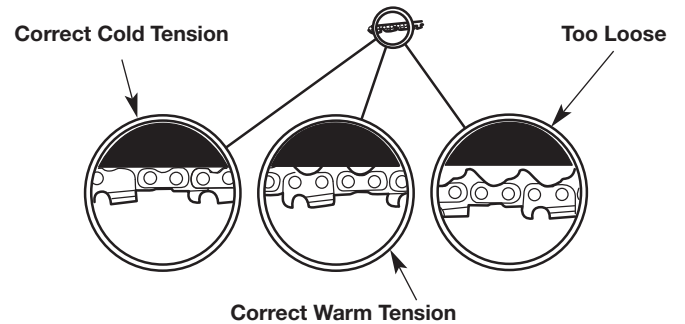

Fig. 25
The desired chain tension depends upon the temperature of the saw chain (Fig. 25).
- Cold Chain Tensioning - The saw chain should fit snugly against the underside of the guide bar. There should be no gap (Fig. 25).
- Warm Chain Tensioning - The saw chain will expand as it heats up during operation. The drive links should hang approximately 1/16 inch (1.3 mm) out of the guide bar groove (Fig. 25).